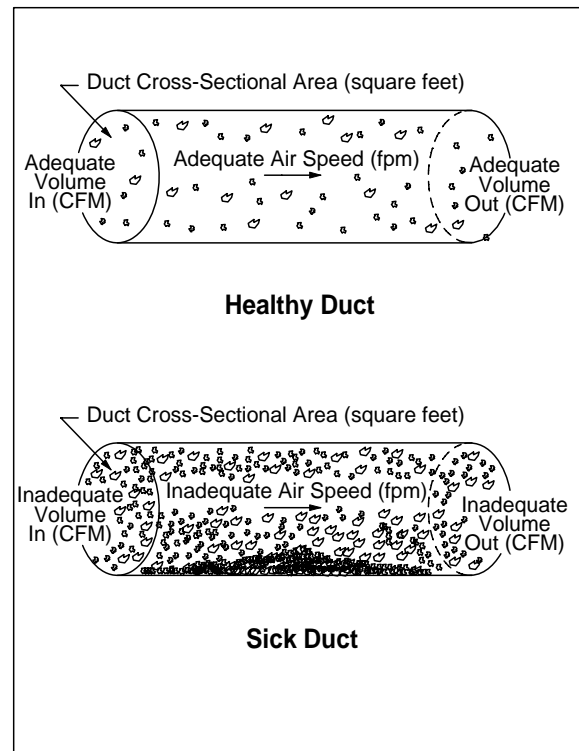

Figure 2
- To maintain a "healthy" duct system, make sure there is adequate air speed to prevent fallout of wood dust and avoid explosive dust-air mixtures (Figure 2).